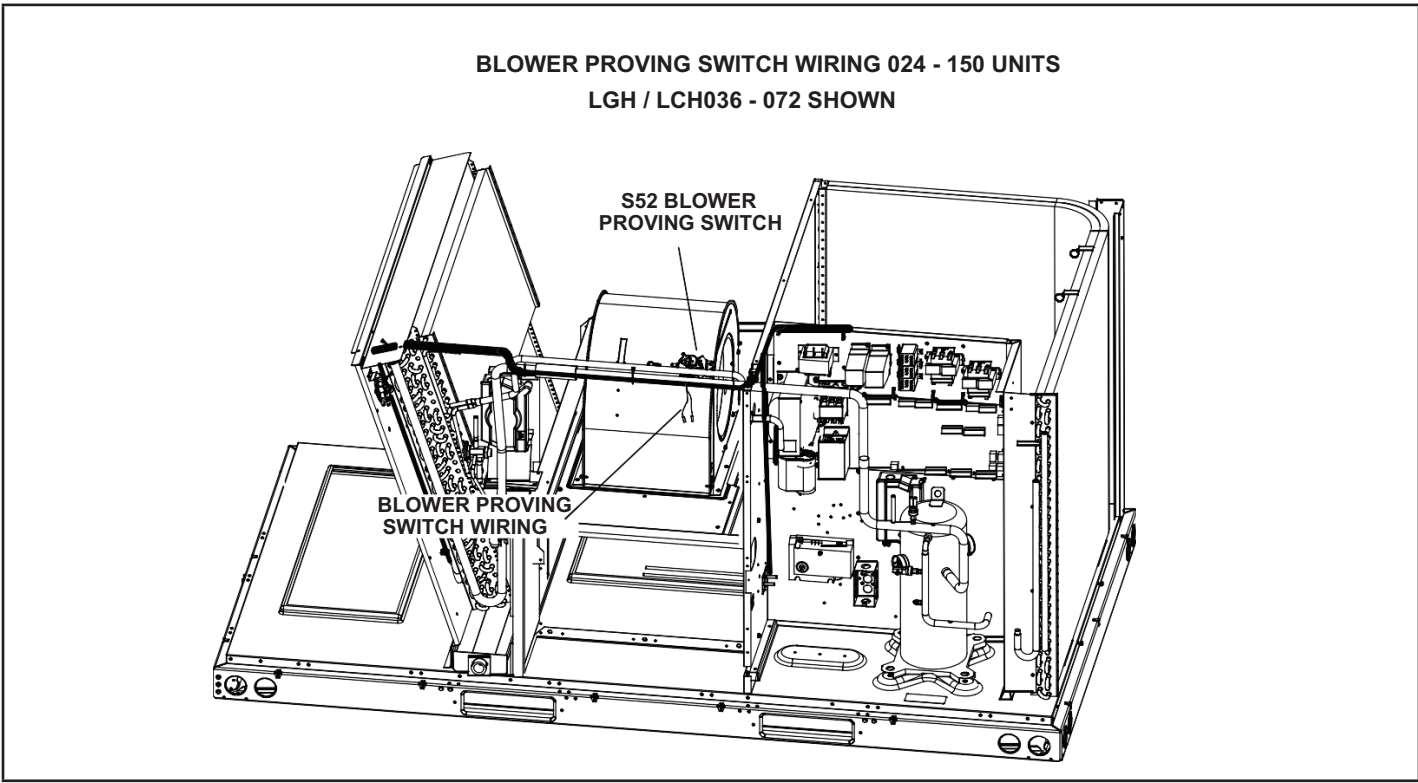
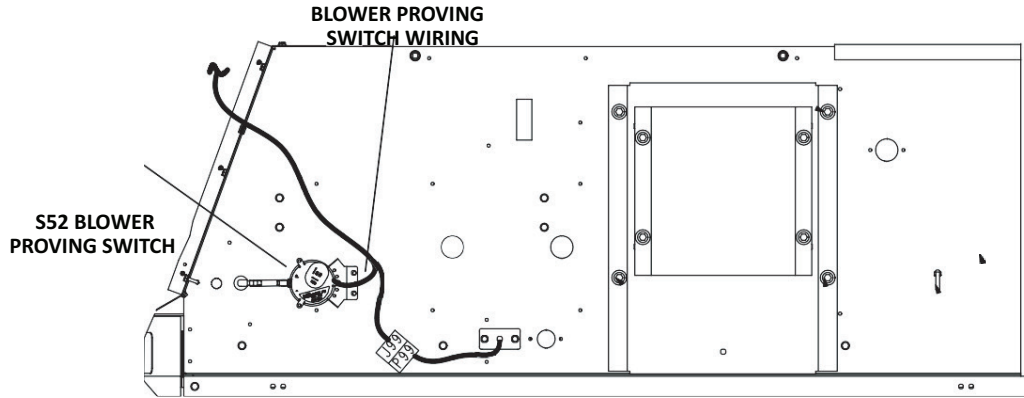
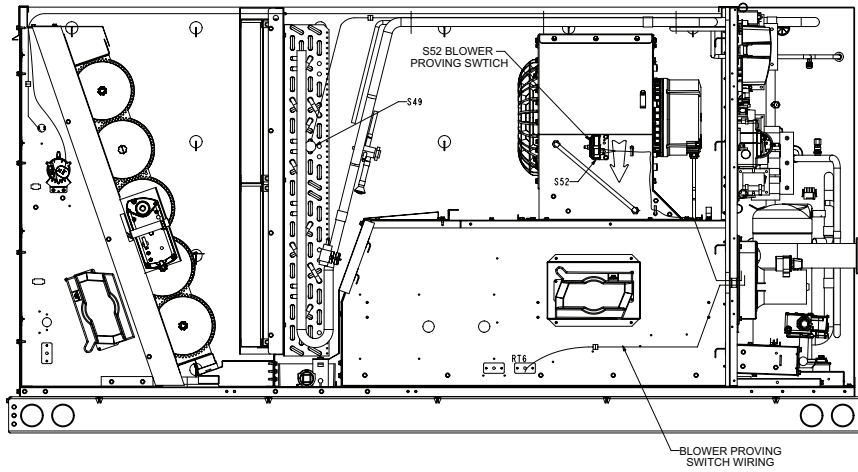
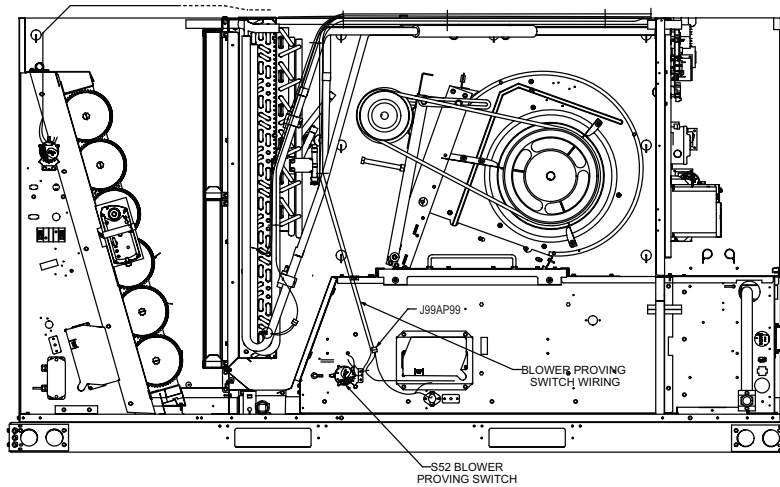

FIGURE 9
FIGURE 10
FIGURE 11
FIGURE 12
Locate the wires hanging near the blower proving switch labeled "S52". Connect wires to the blower proving switch terminals. See figure 9 for LG/LC/LH/LD 024-150 units, figure 10 for LG/LC 156-300S units, figure 11 for SGH/SCH 036 – 060(S) units and figure 12 for SGH/SCH 120 unit.